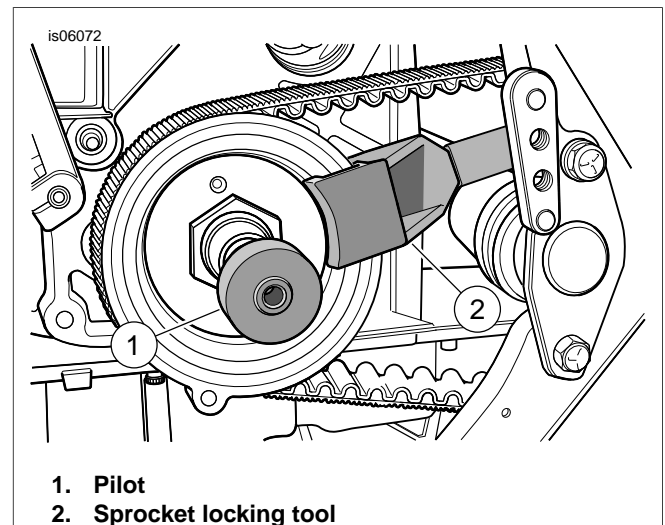

Figure 1. Install Pilot and Sprocket Locking Tool
3. See Figure 1. Insert the handle of the sprocket locking tool **above** the pivot shaft.
5. See Figure 1. Thread the pilot (1) onto the mainshaft (left hand threads). The pilot is used to prevent the mainshaft wrench from slipping.
2. See Figure 1. Insert the handle of the sprocket locking tool **below** the pivot shaft (for left-hand threaded models).